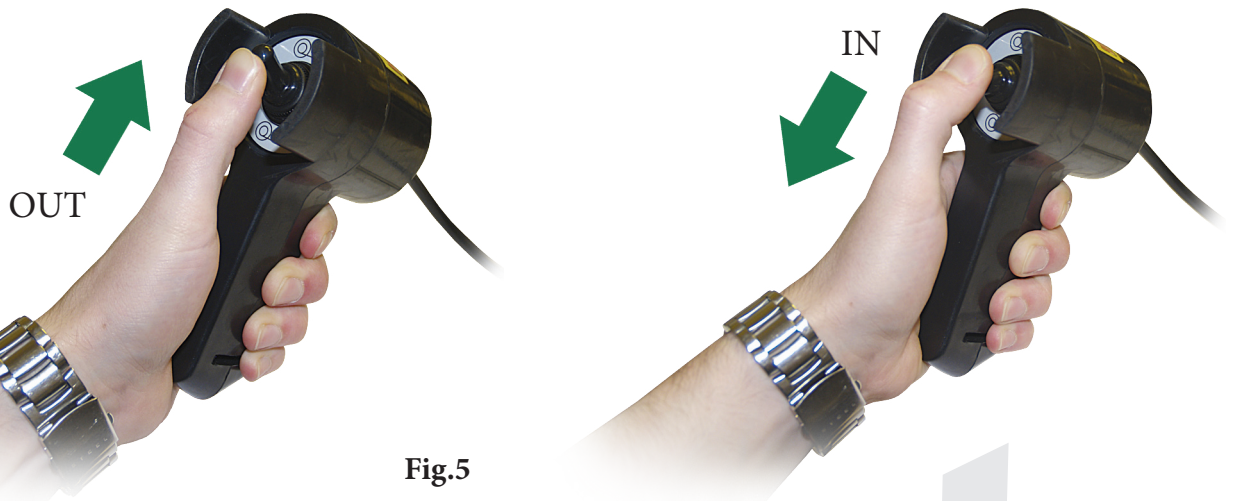

Fig.5
- 6) While standing aside of the tow path, push the button on remote control forward and backward (Fig.5) to check winch running directions. Wait until the motor stops before reversing directions.